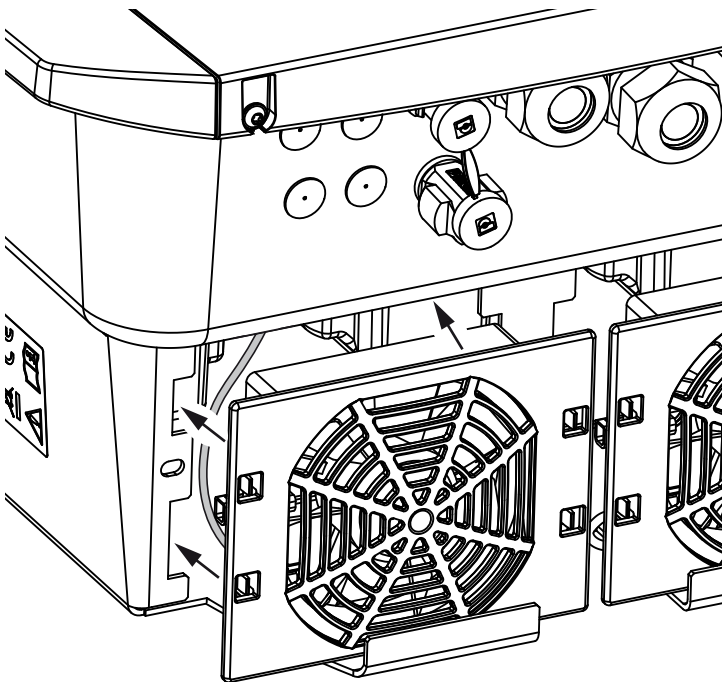

Fig. 56: Fan installation
- the fan must be correctly installed in the fan frame (air flow direction). **↗ Fig. 56**